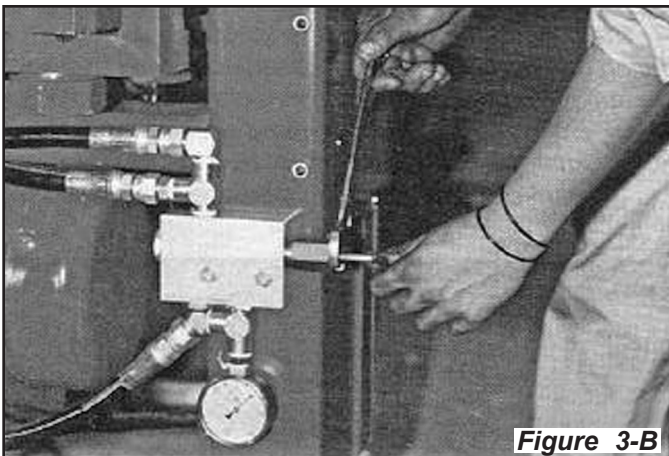

Figure 3-B
4. At this time read the pressure shown on the gauge attached to the sequence valve. (See figure 3-B)